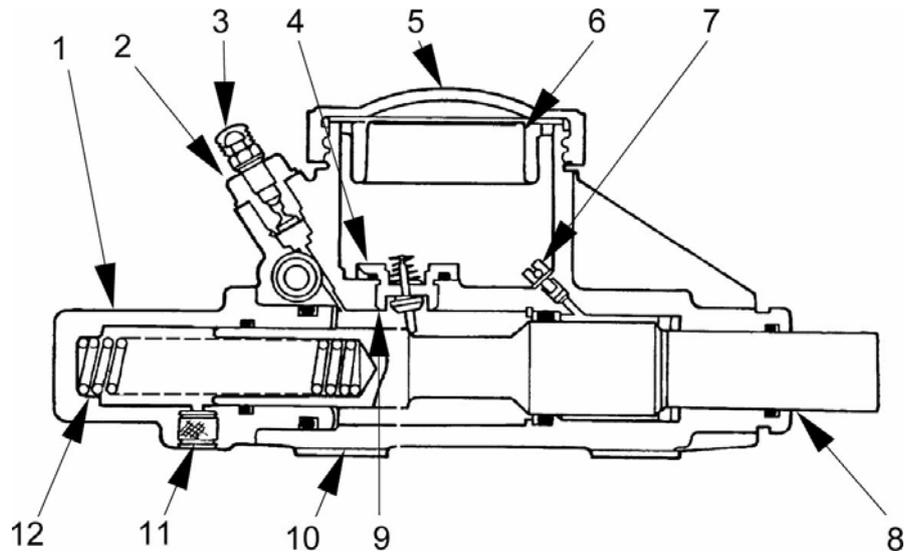
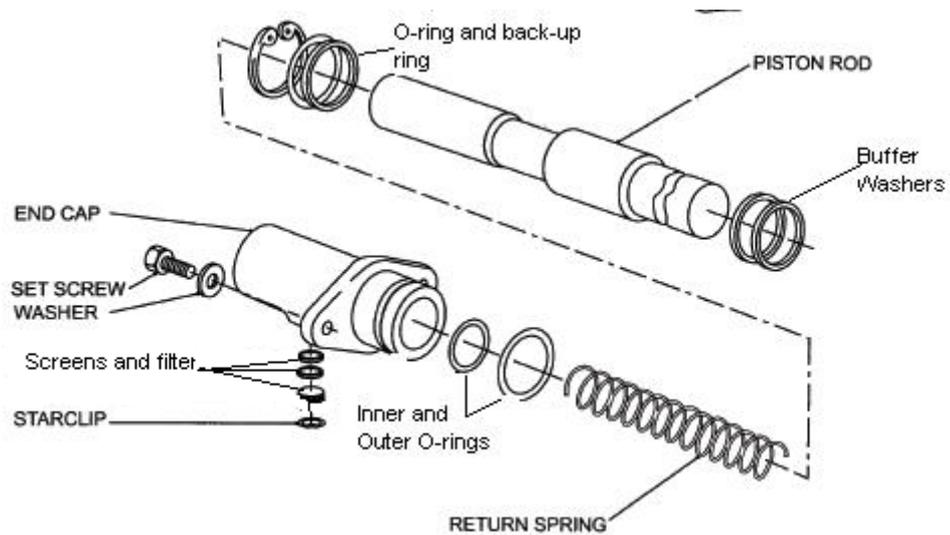

Figure 5 Brake Master Cylinder – Sectional View
Figure 6 Master Cylinder Expoded View
**33. Disassembly.** Disassemble the master cylinder as follows (Figure 5 and Figure 6).
- a. Remove the weather cap, reservoir cap (Figure 5, Item 5) and moisture seal (Figure 5, Item 6). Discard any residual brake fluid.
- e. Remove the bleed nipple (Figure 5, Item 3) and housing (Figure 5, Item 2) from the body.
- f. Remove the compensating valve nut (Figure 5, Item 4) with compensating valve (Figure 5, Item 9) from the base of the reservoir.
- g. Remove the equalising valve (Figure 5, Item 7) from the base of the reservoir.
- h. Remove the two bolts with spring washers securing the end-cap (Figure 5, Item 1) to the housing. Then remove the end-cap and the piston return spring (Figure 5, Item 12).
- j. Slide the piston (Figure 5, Item 8) out of the body.
Table 1 Annotation to Figure 5
- 35. Reassembly.** Reassemble the master cylinder as follows (Figure 5 and Figure 6):
- Install the buffer and washer, the back-up ring, the new O-ring and the circlip into the piston body (refer to Figure 6 for assembly).
- Slide the piston (Figure 5, Item 8), with the open end facing backwards, into the body from the rear.
- Install the inner and outer O-rings on the end-cap (Figure 5, Item 1).
- Fit the piston return spring (Figure 5, Item 12) and end-cap. Secure the end-cap to the housing with the two bolts fitted with spring washers. Torque the bolts to 34 N.m.
- Install the equalising valve (Figure 5, Item 7) in the base of the reservoir. Torque the valve nut to 3 N.m.
- Install the compensating valve (Figure 5, Item 9) and compensating valve nut (Figure 5, Item 4) into the base of the reservoir. Torque the valve nut to 82 – 95 N.m.
- Top up the cylinder reservoir and install the moisture seal (Figure 5, Item 6), reservoir cap (Figure 5, Item 5) and weather cap. Seal the cylinder outlet port with a plastic plug.